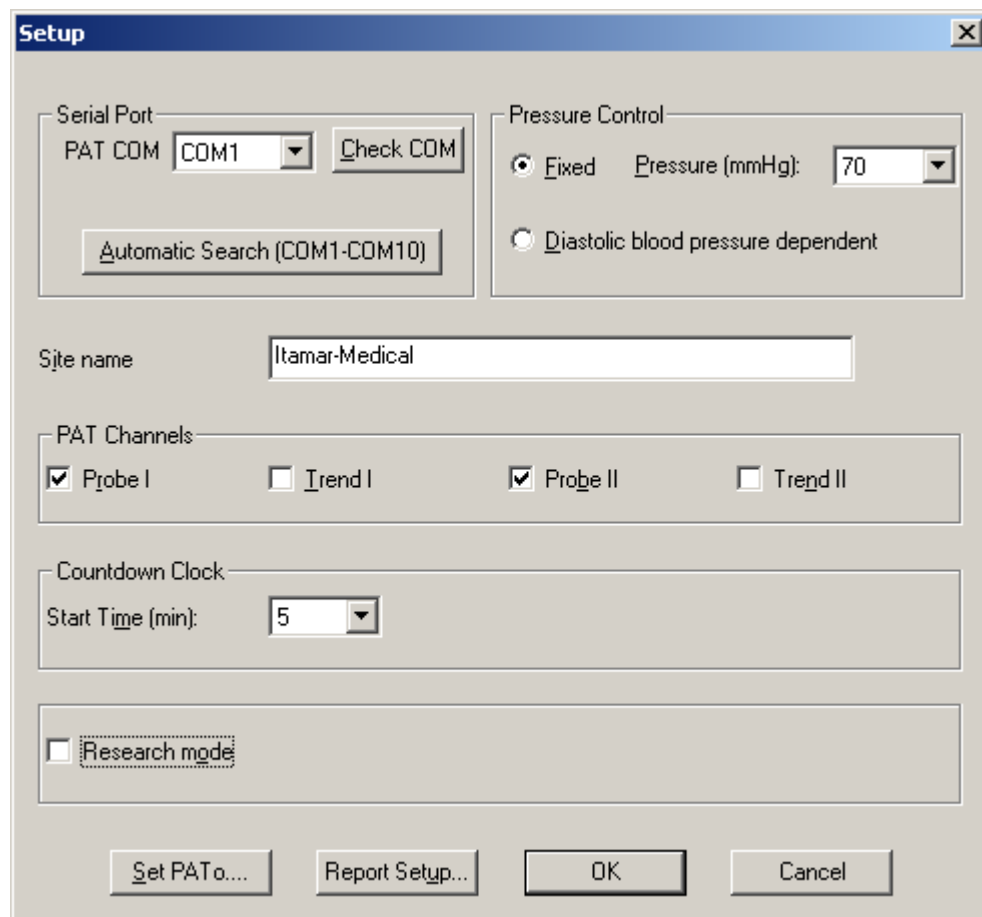

Figure 13 - The setup dialog box
(Refer to Figure 13).
- Diastolic Blood Pressure – mandatory field, unless the “Fixed pressure” mode was selected in the set-up screen (Figure 13).